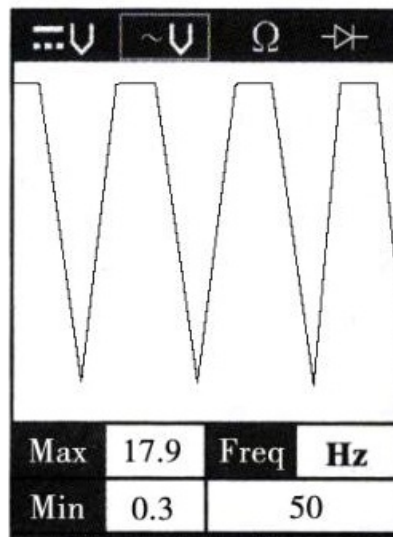

Figure 3
- **AC voltage** While the tool in this mode, contact the probe tip to a circuit, then the LCD display will read the Max. voltage, the Min. Voltage and frequency (Figure 3).